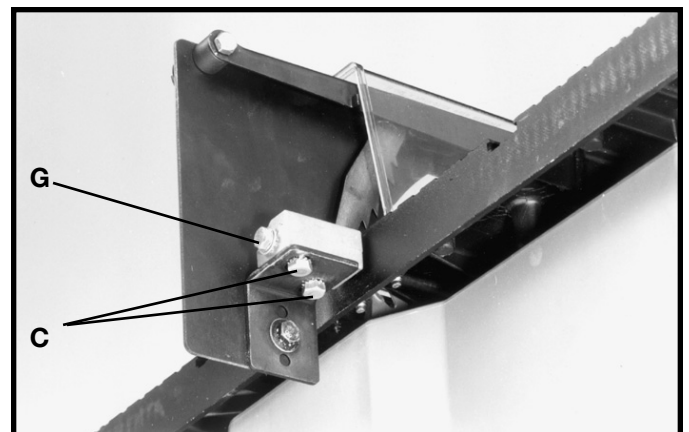

Fig. 17
10. When you are certain the splitter is properly aligned with the saw blade, tighten the two screws (C) Fig. 17, that fasten the splitter support bracket to the splitter bracket and tighten screw (G) that fastens the splitter bracket to the pivot rod.